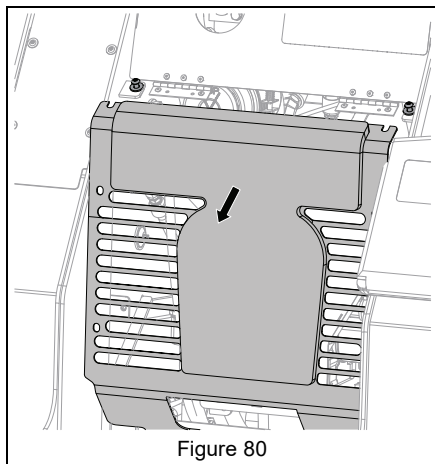

Figure 80
3. Slide operator guard away from unit and set aside. See Figure 80.